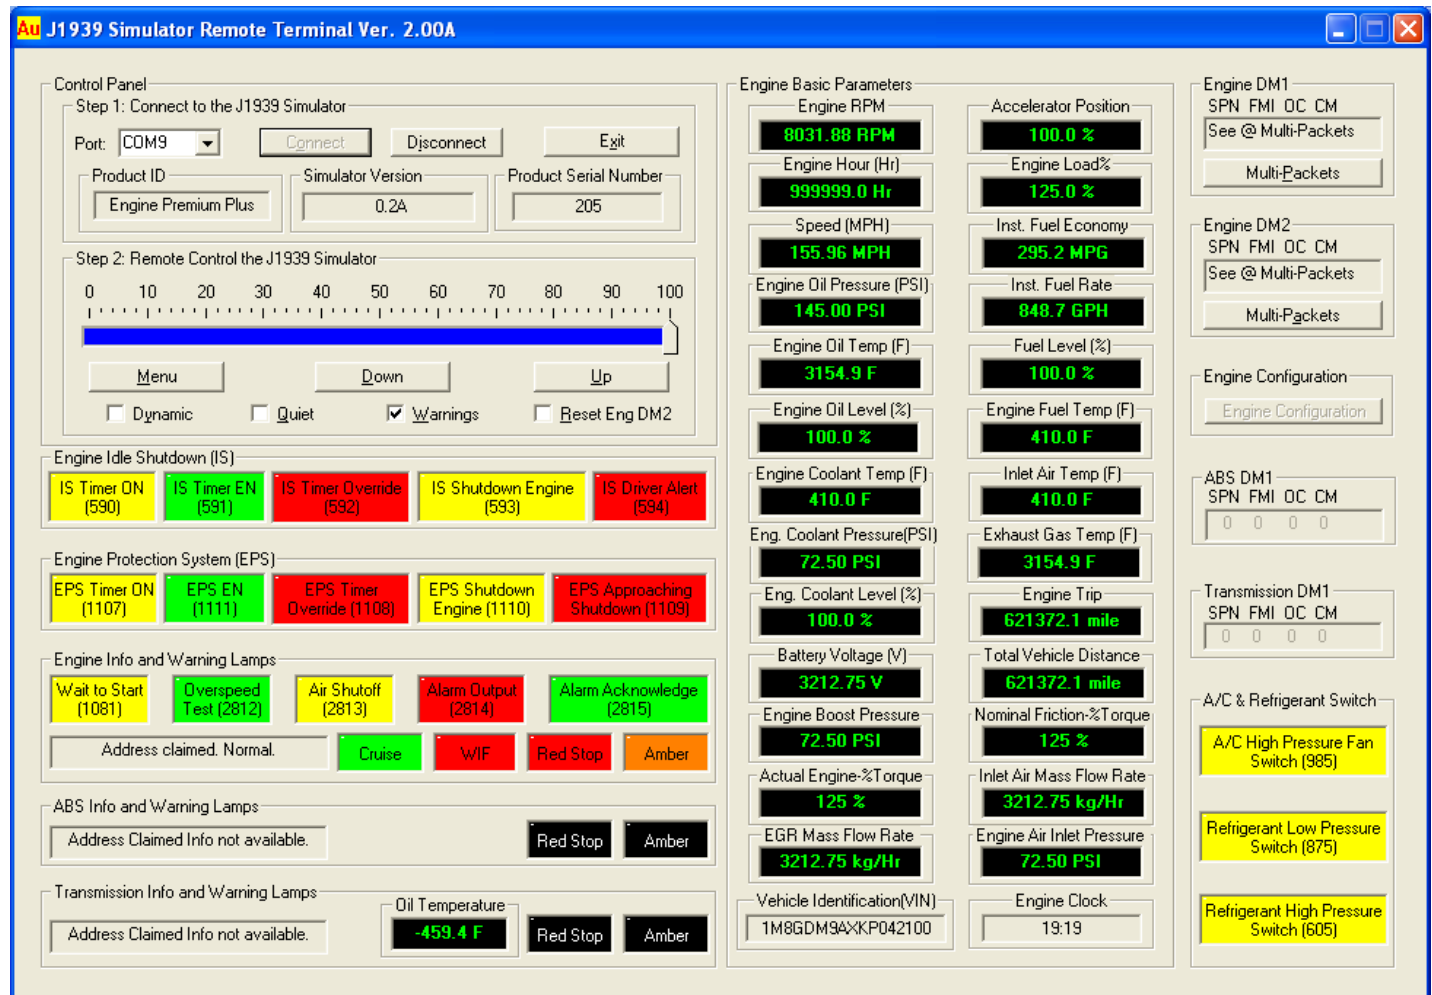

Figure 4-4 Au J1939 Simulator Remote Terminal GUI – Engine Premium Plus
Figure 4-4 shows the J1939 Simulator Remote Terminal GUI for *Engine Premium Plus* edition. Engine Idle Shutdown (IS), Engine Protection System (EPS), Engine Info and Warning lamps, Engine Basic Parameters, A/C & Refrigerant Switch, Engine DM1, and Engine DM2 are included.